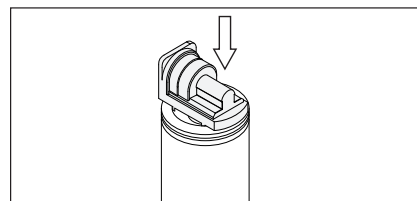

Figure 7
5. Push down firmly on the rear of the metering valve. You will hear a “click” sound (see Figure 7). Push down again on the rear of the metering valve. You will hear a second “click” sound (see Figure 7). The second “click” sound indicates that the metering valve is seated correctly on the fuel cell.